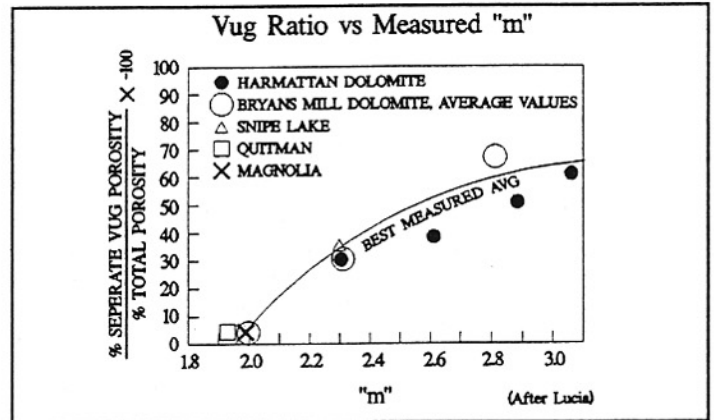

Figure 5
- Visually determine separate vuggy porosity and total porosity then enter the cross plot by Lucia (Fig. 5).